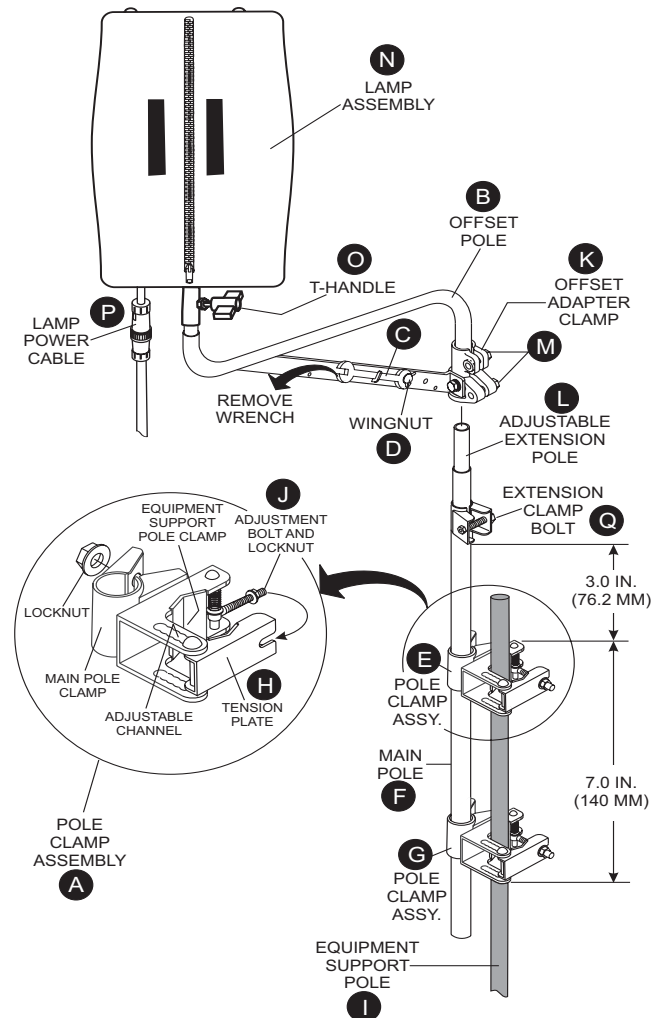

Figure 1. Offset Pole Assembly
Refer to Figure 1 for the following procedure.
- Remove the offset pole (B) from the shipping container.
- Attached to the offset pole is a 17/19 mm open-end wrench (C). Remove the wingnut (D) securing the wrench to the offset pole and remove wrench.
- Remove the two pole clamp assemblies (A) from the shipping container. Attach one pole clamp assembly (E) to the main pole (F) about 3 inches (76.2 mm) down from the main pole extension clamp. Using supplied 19 mm wrench, tighten locknut on the pole clamp assembly securely.
- Attach the other pole clamp assembly (G) to the main pole (F) about 7.0 in. (140 mm.) down from the previous attached pole clamp assembly (E). Using the 19 mm wrench, tighten locknut on the pole clamp assembly securely.
- To attach main pole (F) to equipment support pole (I), swing open adjustable tension plate (H) on clamp so that it can accommodate the diameter of the equipment support pole. Insert equipment support pole (I) through the two equipment support pole clamp assemblies as shown in Figure 1.
- Once the equipment support pole (I) has been seated properly, move adjustment bolt and locknut (J) into locking position. Use the supplied 17 mm wrench, to tighten locknuts (J) on both clamps securely.
1. Before raising the extension pole, make sure the T-handle bolt lock (Figure 1-O) is securely tightened. This will prevent the balloon/lamp assembly from falling off. In addition make sure that the lamp power cable is connected to the mating end of the power source cable.
2. Raise extension pole (Figure 1-L) to desired height. Watch out for any overhead obstructions.
3. Using the supplied 19 mm wrench tighten extension clamp bolt (Figure 1-Q) securely. Place wrench in a safe place where it will not get lost.
1. Using 19 mm wrench, **loosen** extension clamp bolt (Figure 1-Q).
2. Carefully pull down on the adjustable extension pole (Figure 1-L) and lower lamp assembly.
3. Remove wingnut (Figure 1-D) from offset pole (Figure 1B) and insert wrench into wrench holder. Reinsert wingnut and tighten.
6. Loosen T-handle bolt (Figure 1-O) by turning counterclockwise and remove lamp assembly (Figure 1-N) from offset pole.